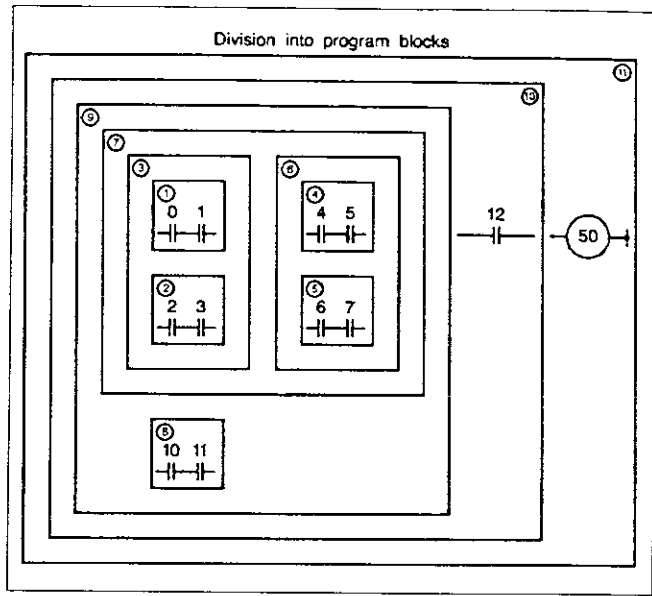

Figure 14.9
- Subdivide the ladder diagram into blocks, beginning at the top left with the starting conditions. In figure 14.9 blocks (1) to (11) are shown, as they have to be subdivided in the given example.